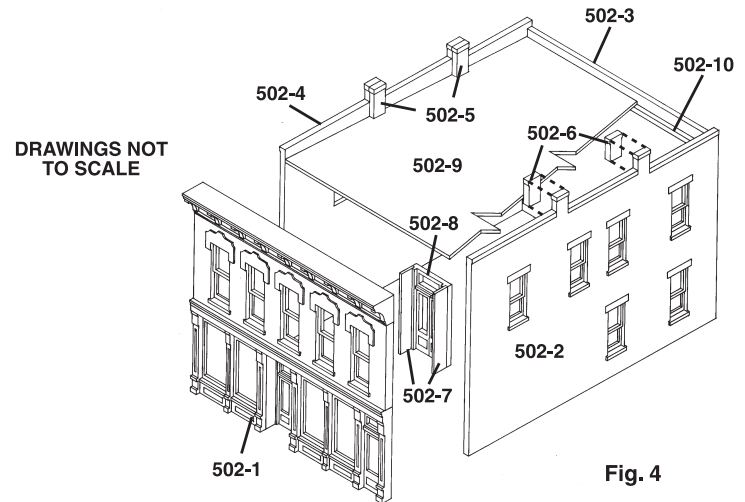

Fig. 4
1. Using Side Panel Material (white styrene strip), cut two Entry Door Side Panels (503-6) the same height as Entry Door (503-5) (Fig. 4).
3. Glue Entry Door Assembly to backside of Front Wall (503-1) (Fig. 4).